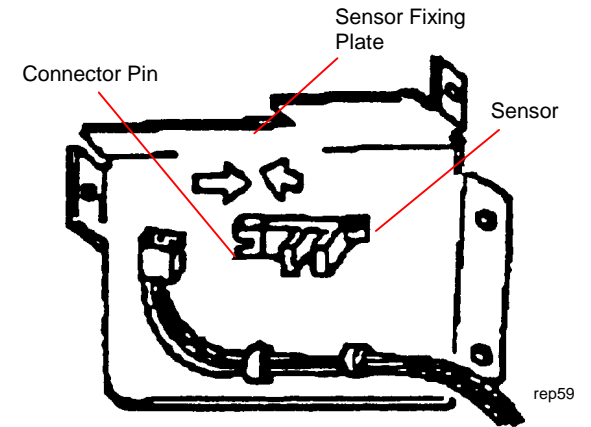

Figure 3. Removing the Sensor
5. (Figure 3): Disconnect the connector and remove the Paper Feed Clock Sensor from the plate.